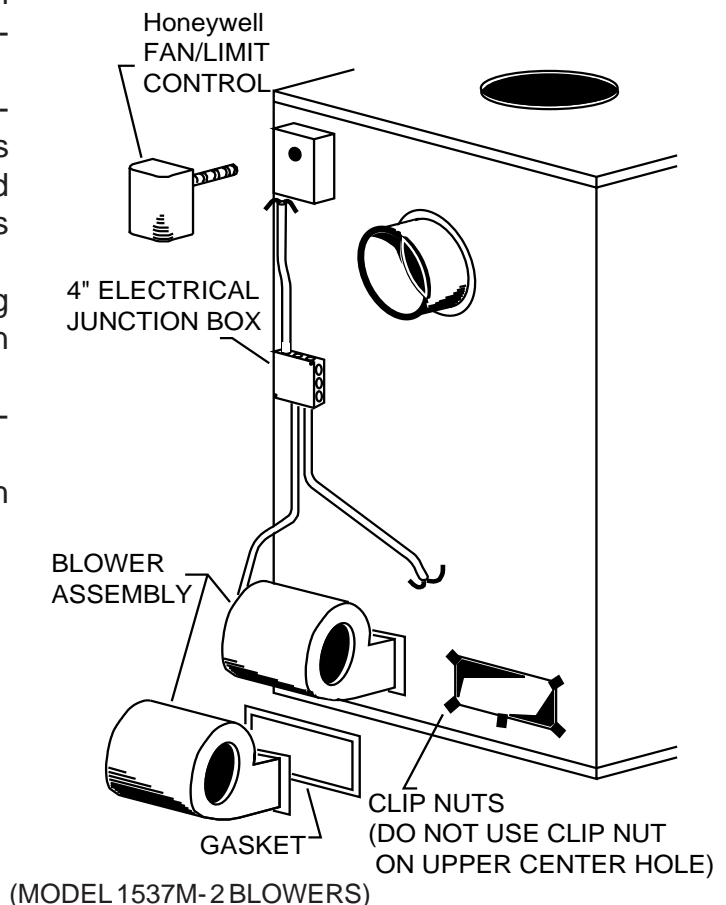

Fig. 10
4. Install Honeywell Fan/Limit Control on rear of furnace cabinet as shown in Figure 10.
5. Remove blower(s) from carton(s). Remove junction box cover. Attach clip nuts as in Figure 10. Install blower(s) and gasket(s) with 1/4"-20x3/4" bolts as shown.